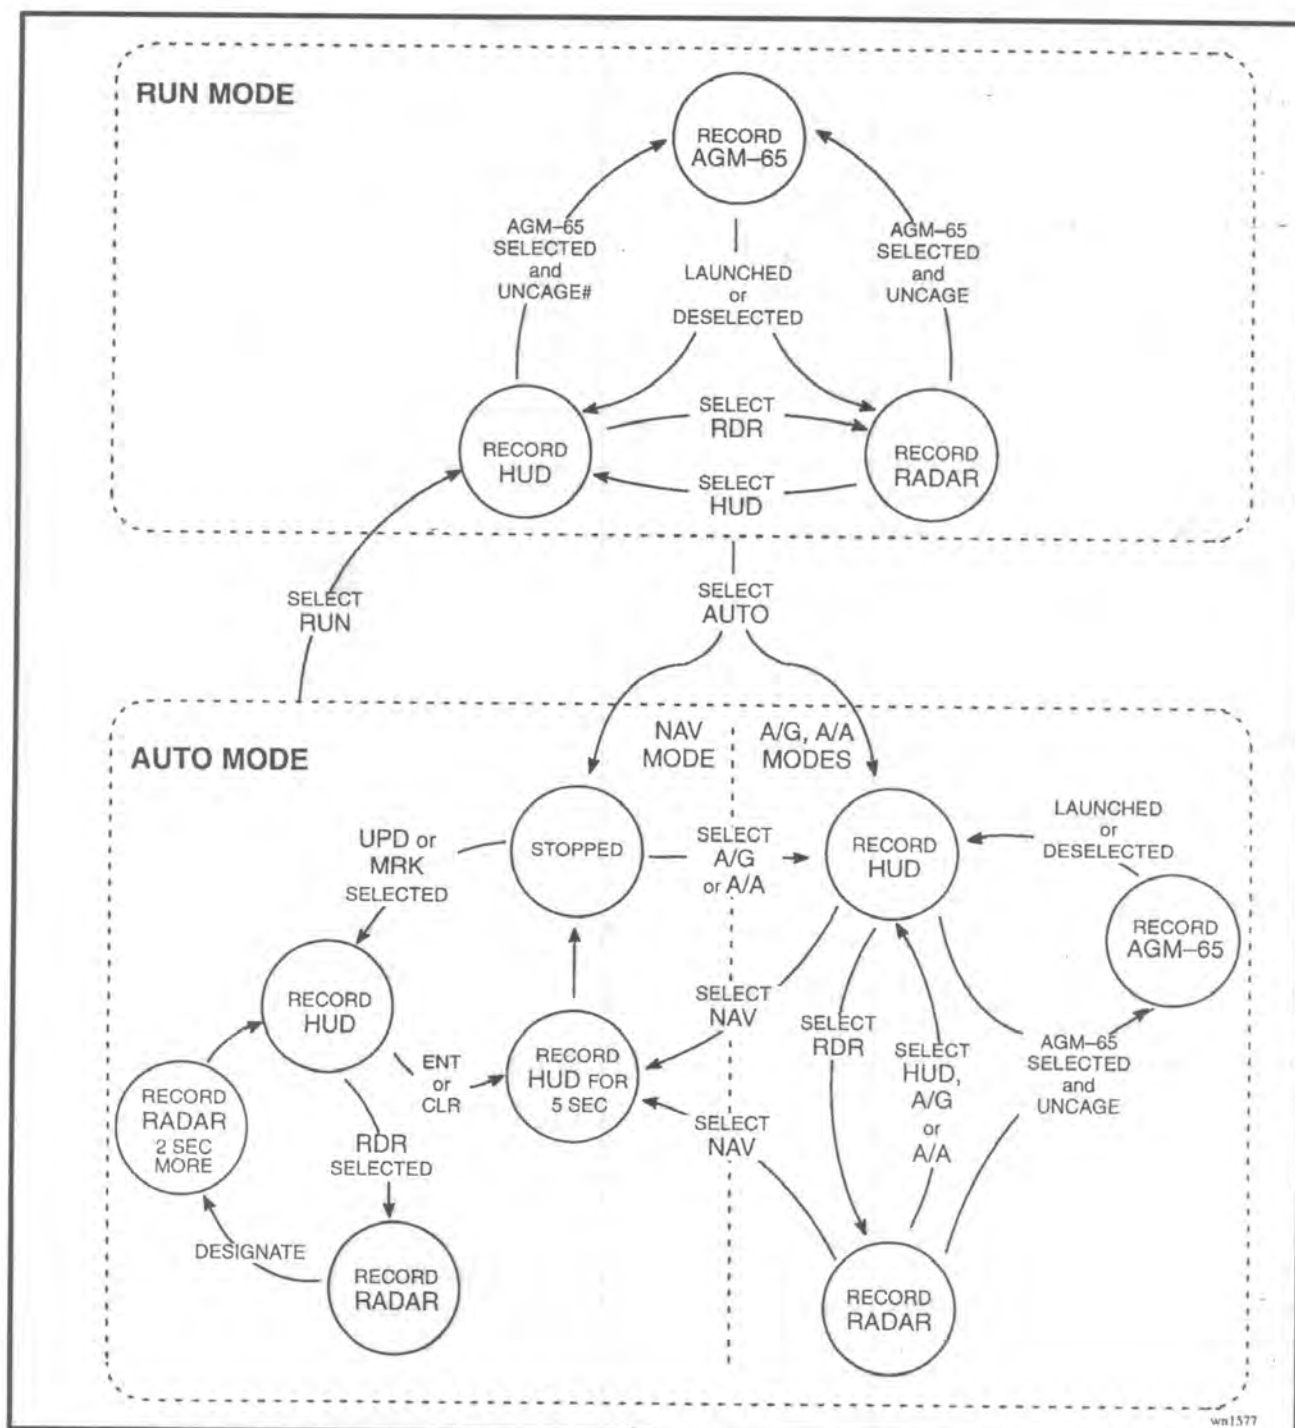

Figure 7-9 AVTR Record Modes
7.80 When the RUN mode is selected, recording is dependent on the selection of the HUD/RDR pushbutton, and AGM 65 selection and status. Figure 7-9 describes the record modes.
7.81 In the AUTO mode recording is dependent on the selected Master Mode, AGM 65 selection and status, and update or mark procedures. Figure 7-9 describes the record modes.